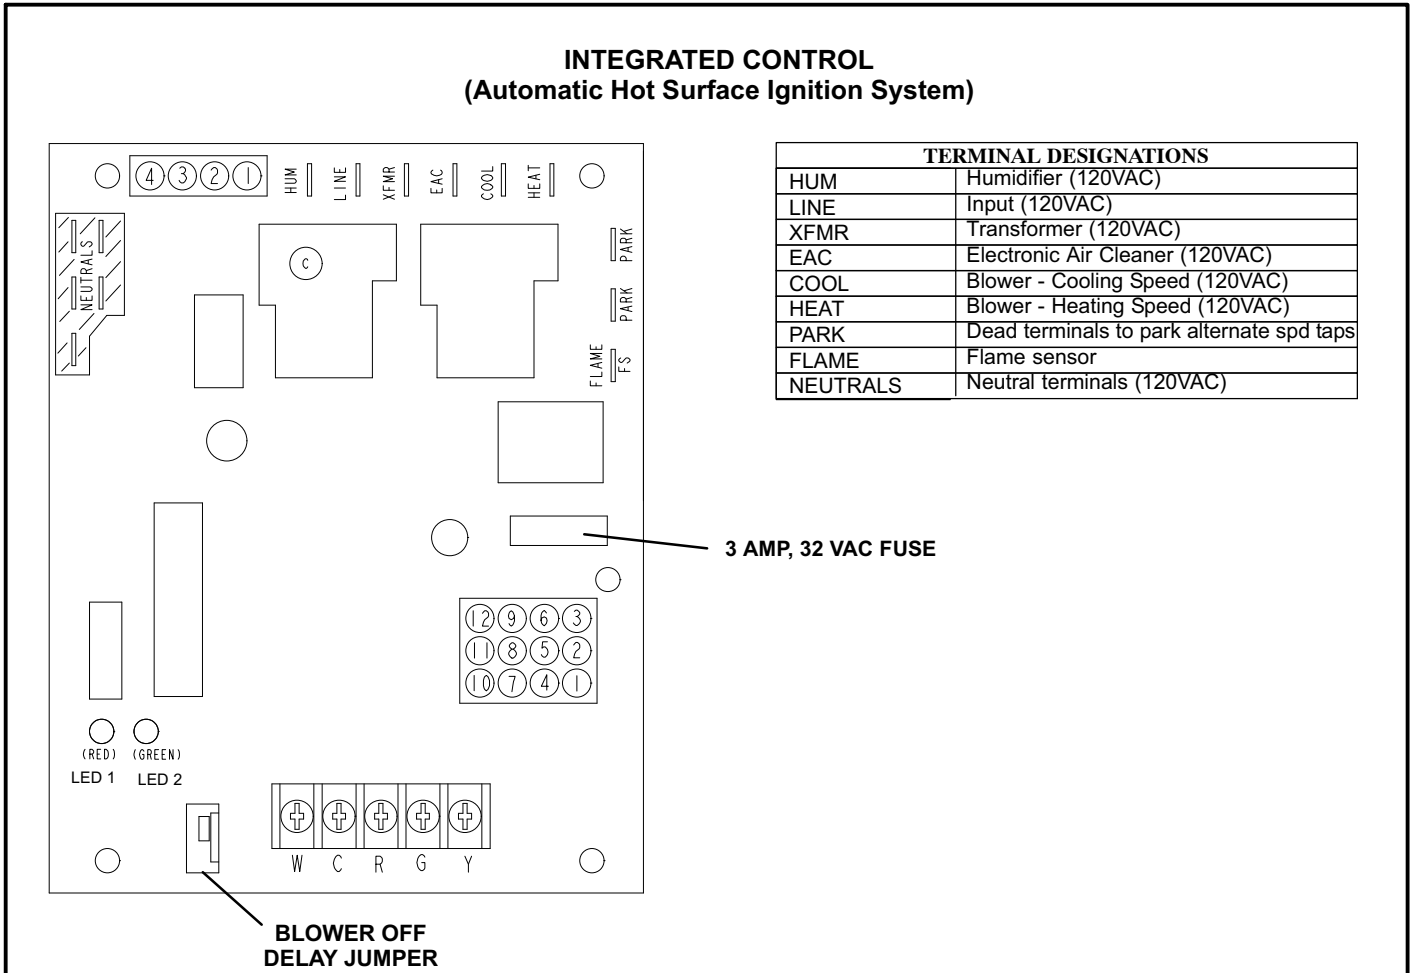
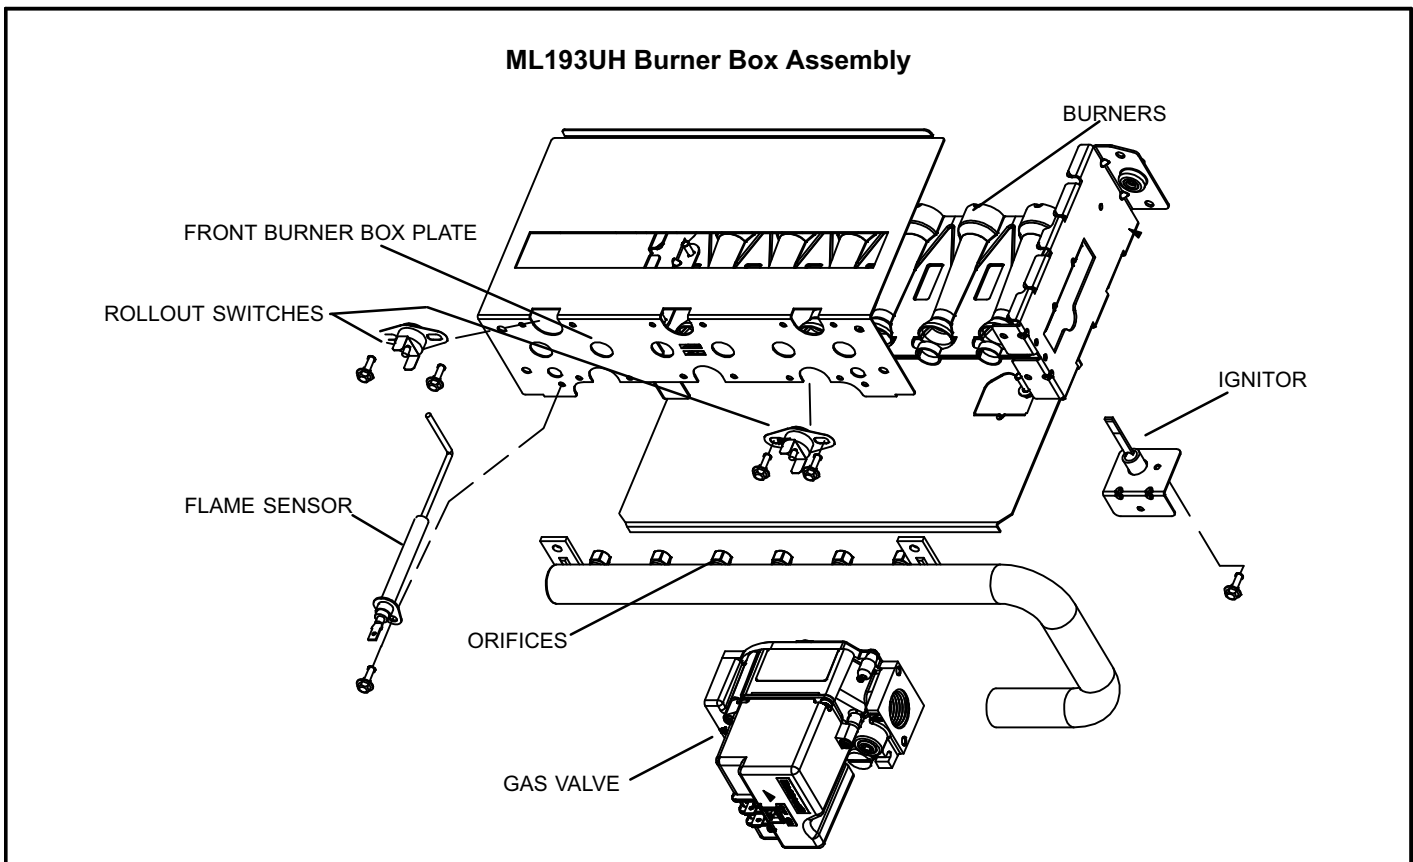

FIGURE 4
FIGURE 6
The ignition control system consists of an integrated control (figure 4) ignitor (figure 6) and flame sensor (figure 6). The integrated control and ignitor work in combination to ensure furnace ignition and ignitor durability. The integrated control, controls all major furnace operations. The integrated control also features two LED lights (DS1 red and DS2 green) for troubleshooting and two accessory terminals rated at (1) one amp. The integrated control also features a (3) amp fuse for overcurrent protection. Tables 1 and 2 show jack plug terminal designations. See table 3 for troubleshooting diagnostic codes. The mini-nitride ignitor is made from a non-porous, high strength proprietary ceramic material that provides long life and trouble free maintenance. The integrated control continuously monitors line voltage and maintains the ignitor power at a consistent level to provide proper lighting and maximum ignitor life.
1. Ignitor (Figure 6)
2. Flame Sensor (Figure 6)
3. Flame Rollout Switches (Figure 6)